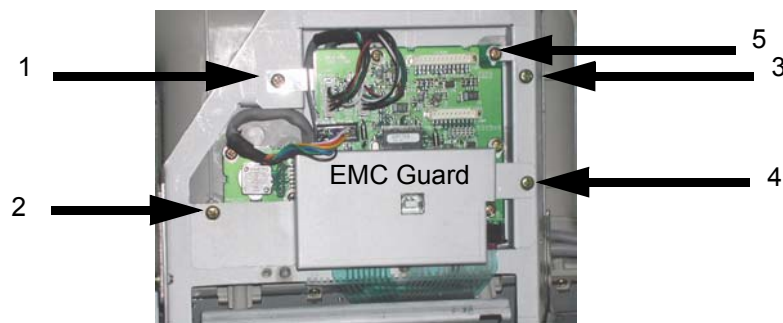

Figure 8-61 Removing HUB EMC guard
- 1.) Unscrew five (5) screws and remove the HUB Assy EMC guard. Refer to section Figure 8-61 on page 22.